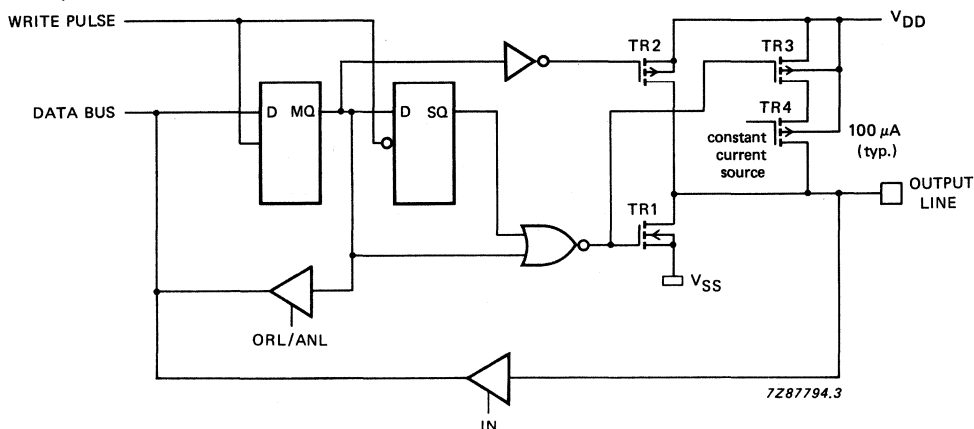

Fig. 12 Push-pull output.
- Option 3 —PUSH-PULL OUTPUT; drive capability of the output will be 2,5 mA (typ.) at $V_{DD} = 3 \text{ V}$ in both polarities. To avoid a large current flowing through the output transistors during the input mode, these push-pull pins must be used only as outputs (Fig. 12).